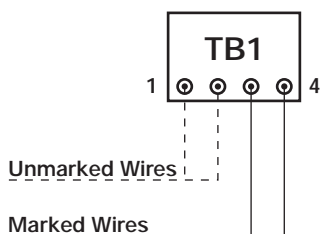

Figure 14
TD2 - Remote Electronic Enclosure (see Figure 14)
- a. The probe's leads have been separated at the factory. Connect leads from RTD #1, which are grouped and marked, to the two terminals on TB1 closest to the sensor label (refer to Figure 14 on page 14).